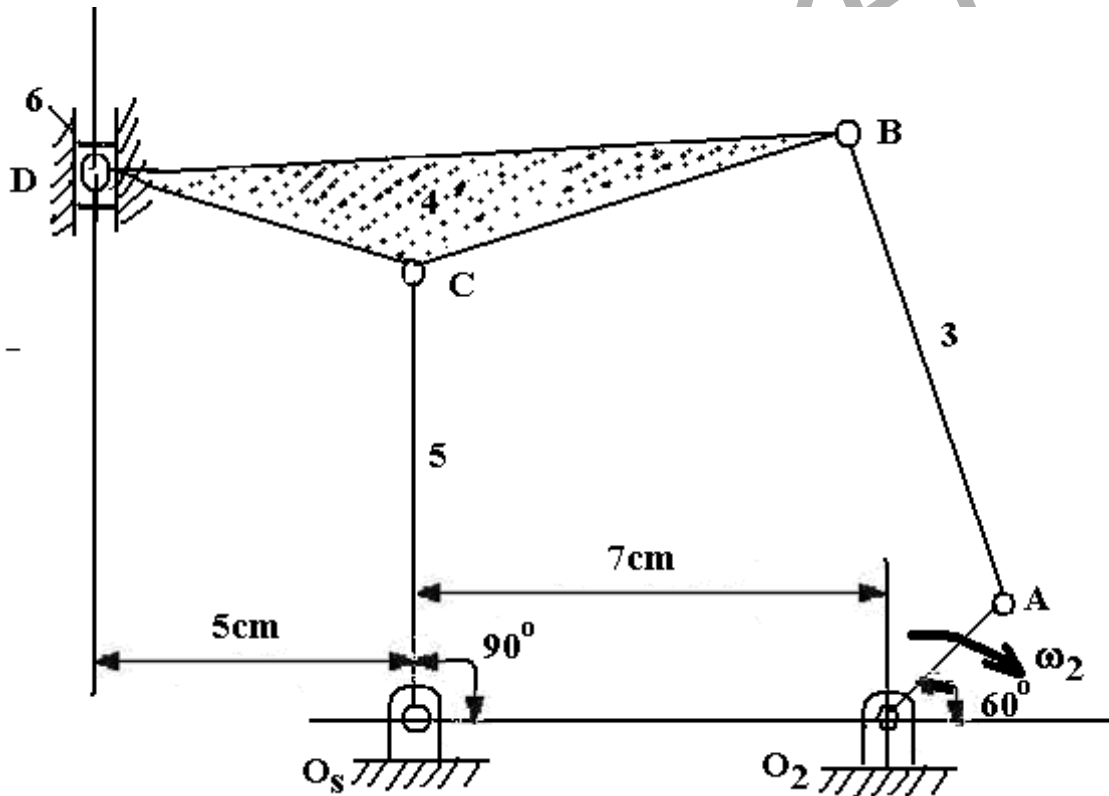

Figure 1
1. A Watt 'walking-beam' mechanism is shown in Figure 1. Determine the velocity and acceleration of the slider if the crank O_2A rotates with a speed of 1 cycle/sec in a clockwise direction. Given $O_2A = 2\text{ cm}$, $AB = 8.5\text{ cm}$, $BC = 7.5\text{ cm}$, $CD = 5.25\text{ cm}$, and $O_5C = 7\text{ cm}$. [16]